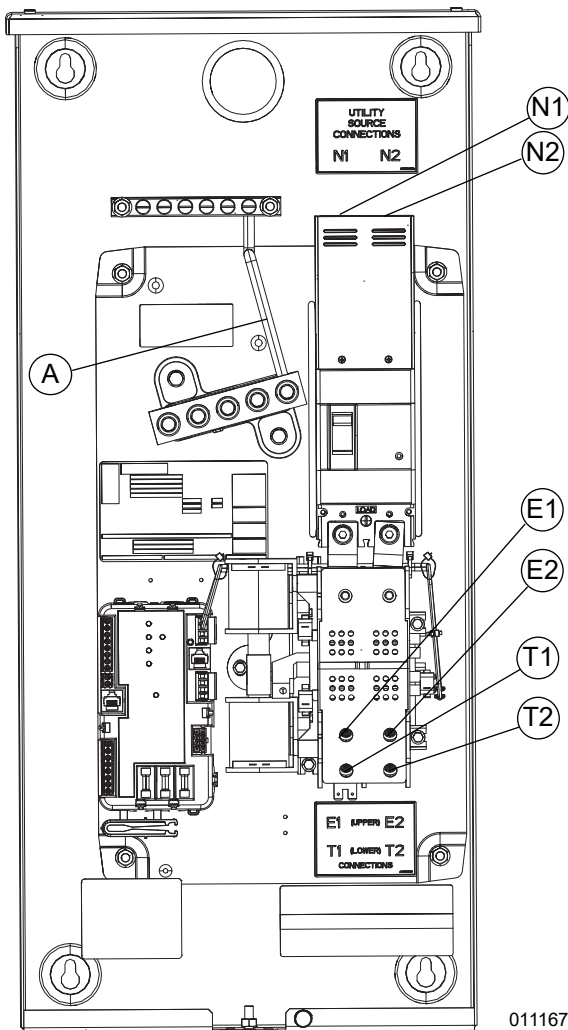

Figure 3-2. Wiring Connections 200 A Unit
2. See Figure 3-2. Connect utility neutral conductor to the neutral terminal bar. The grounding electrode conductors can be connected to the equipment grounding terminal bar (see NEC 250.24(A)(4)). Follow all torque specifications for the terminal bars. A wire type main bonding jumper is provided to properly bond the service equipment.